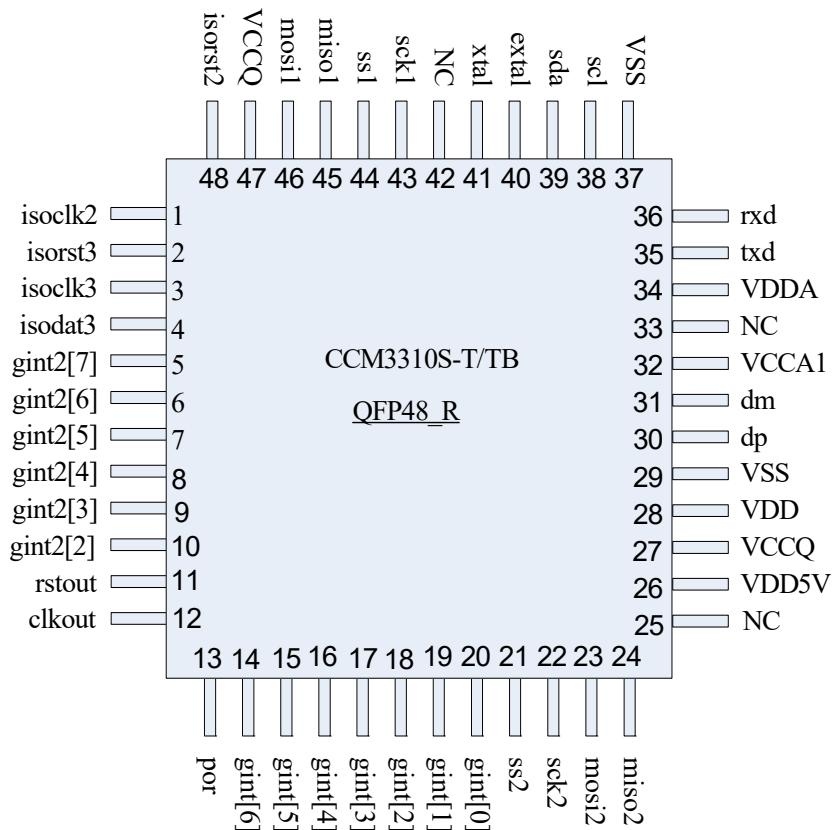

Figure 2-2 QFP48-R Package
- **Figure 2-2** for QFP48_R package